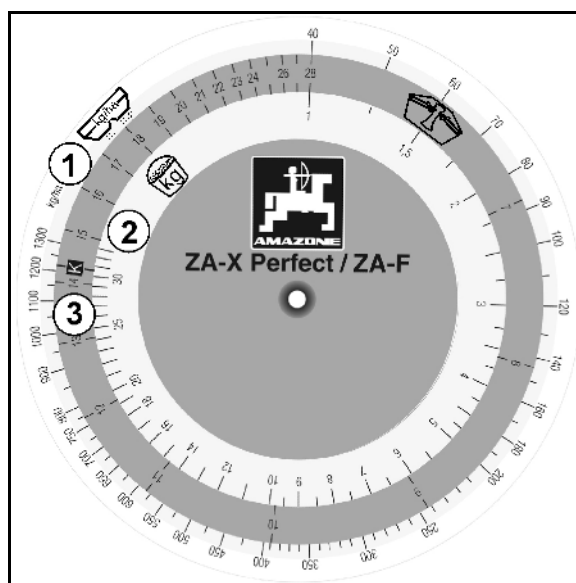

Fig. 67
1. Hook the collection bucket (Fig. 67/1) into the holder using the bracket (Fig. 67/2). Latch the collection bucket into the clamping device (Fig. 67/3).
2. Open the lateral slider (Fig. 67/4) of the outlet chute completely for approx. 5 sec. by pulling the rope (Fig. 67/5). This ensures uniform flow of fertiliser. Afterwards, pour the caught fertiliser back into the hopper of the spreader.
5. Drive the exact calibration distance from the beginning to the end point under field conditions, i.e. with the specified constant working speed. While doing so, at the exact beginning point of the calibration distance, open the lateral slider (Fig. 67/4) of the outlet chute all the way using the rope (Fig. 67/5) (pull it as far as it will go) and close it at the end point (when you let go of the rope, the springs (Fig. 67/6) pull the lateral slider into closed position).